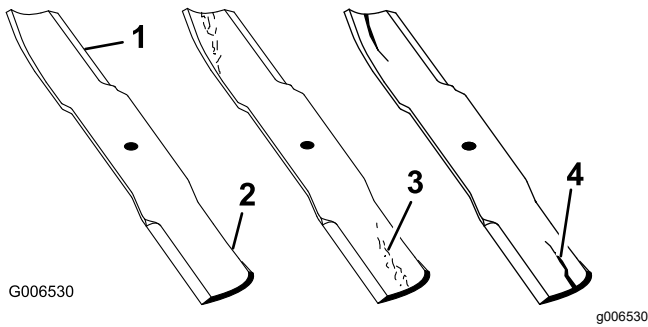

Figure 71
1. Inspect the cutting edges (Figure 71).
4. If you notice any cracks, wear, or a slot forming in this area, immediately install a new blade (Figure 71).